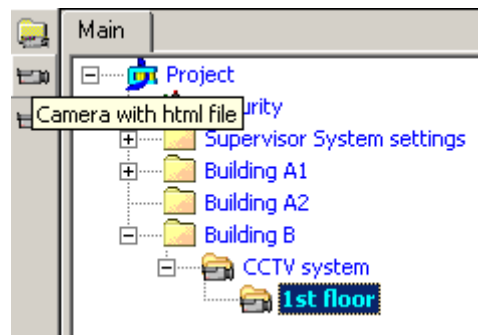
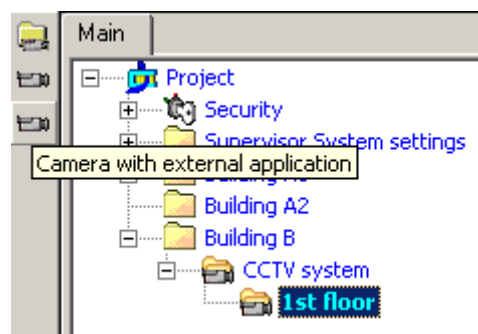

Fig 33 Selecting the icon for adding a device with a web-based viewer
Fig 34 Selecting the icon for adding a device with an application viewer
3. Add a new device, selecting either the unit with HTML-based viewer (Fig 33) or the one with installed application viewer (Fig 34).